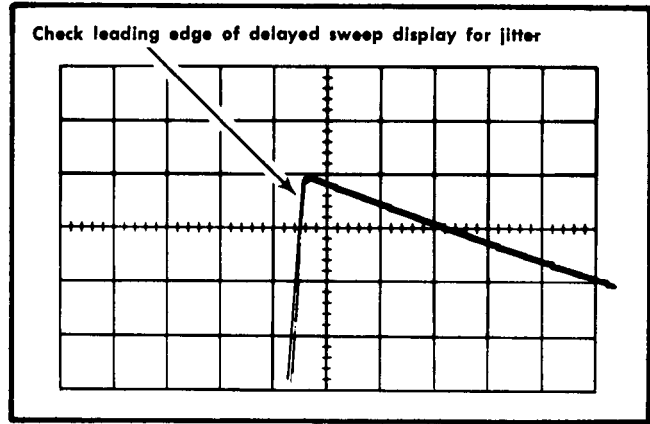

Fig. 5-20. Typical CRT display when checking delay-time jitter.
- c. CHECK-Jitter on the leading edge of the pulse should not exceed 0.5 division [1 part in 20,000; see Fig. 5-20). Disregard slow drift.
- e. CHECK-Jitter on leading edge of the pulse should not exceed 0.5 division; see Fig. 5-20. Disregard slow drift.